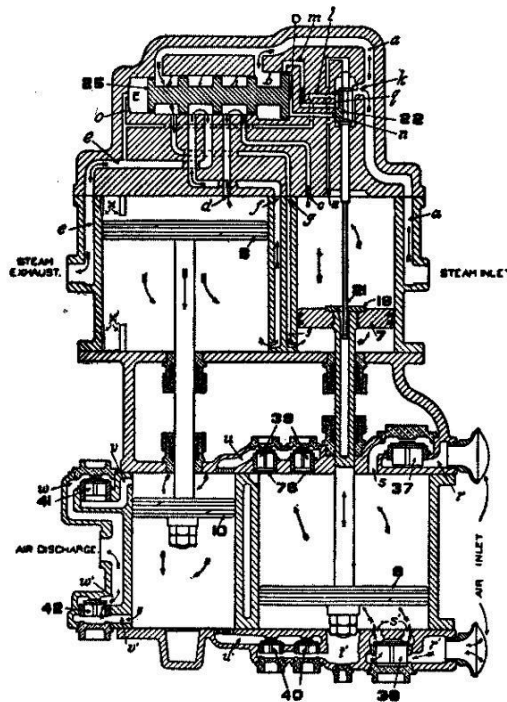
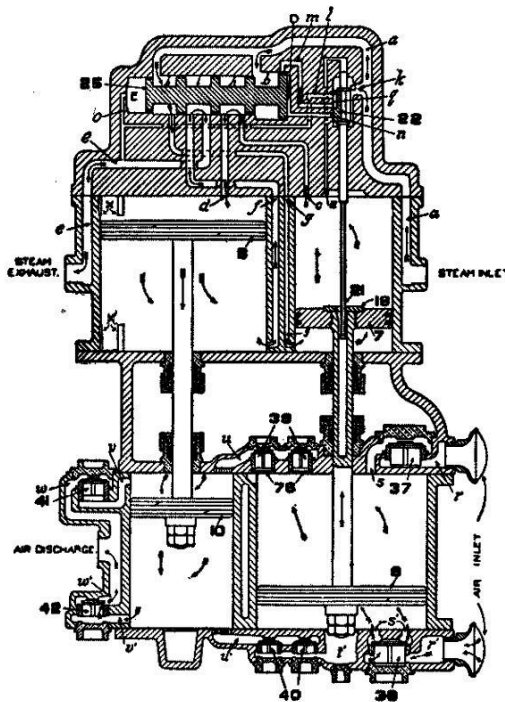

Fig. 4: Diagram of 8½" Cross-Compound Compressor.
Fig. 5: Diagram of 8½" Cross-Compound Compressor.
50. Q. What do Figures 4 and 5 represent?
A. When steam is first turned on, it enters the compressor at the steam inlet (see Fig. 4) and flows through passage "a" into the reversing valve chamber "C" and on to chambers "b" and "y" against the inner faces of the differential pistons, causing the main valve to move to the right. In this position of the main valve, port "g" is open to chamber "b", thus admitting live steam to the lower end of the high pressure steam cylinder, causing an upward movement of the piston 7. When the piston 7 has nearly completed its up stroke, the reversing plate 18, which is attached to the top of this piston, comes in contact with a shoulder on the reversing rod 21, forcing it upward, carrying with it the reversing valve 22, the movement of which closes port "m", at the same time opens port "n", filling chamber "D" with live steam from chamber "C" and passage "a". This balances the pressure on the two sides of the large piston of the differential pistons, and the pressure acting against the inner side of the small piston causes the main valve to move to the left (see Fig. 5). The main valve moving to the left closes port "g" to the live steam and at the same time connects this port with port "f" leading to the lower end of the low pressure steam cylinder, causing an up stroke of the low pressure steam piston 8. In the meantime port "c", which leads to the upper end of the high pressure steam cylinder, is open to chamber "y", allowing live steam to flow down on top of the high pressure steam piston 7, forcing it downward. As the high pressure steam piston about completes its downward stroke, the reversing plate 18 engages the
A. As the low pressure air piston 9 moves up, a partial vacuum is created beneath it and air from the atmosphere enters the air inlet and passage "r" past the lower receiving valve 38 and fills the lower end of the cylinder with air at about atmospheric pressure (see Fig. 4). In the meantime the air above the piston being compressed will hold the upper receiving valve 37 to its seat, thus preventing a back-flow of air to the atmosphere; at the same time the upper intermediate discharge valves 39 are forced from their seats, allowing the air from the low pressure air cylinder to flow through passage "u" to the high pressure air cylinder, the piston of which is now moving downward. The air beneath the high pressure air piston 10 being compressed will hold the lower intermediate discharge valves 40 to their seats, thus preventing the air in the high pressure air cylinder flowing back to the low pressure air cylinder. When the pressure in the high pressure air cylinder becomes slightly greater than the main reservoir pressure, the final discharge valve 42 will be forced from its seat and the air beneath the piston allowed to flow to the main reservoir through passage "w". On the opposite strokes of these pistons air is compressed in a similar manner, but the opposite air valves are used.